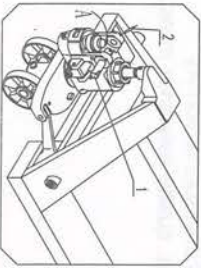

Fig. 1
- 3.1 See Fig 1, pull out the pin roll 1.